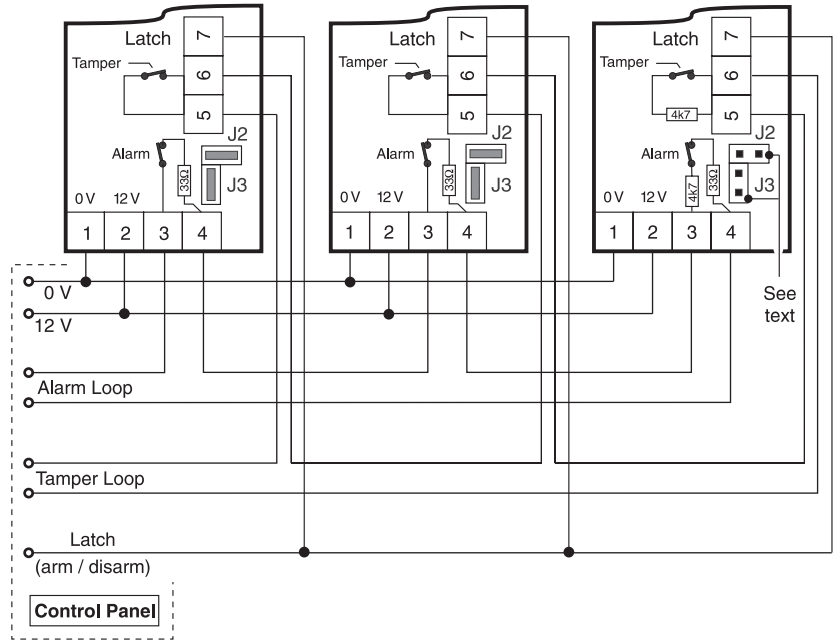

Fig. 3. Standard application.
4. Route cabling into the unit and wire the unit as shown in fig. 3, 4 or 5.
### Standard application (fig. 3).
The GS625 incorporates two on-board 4k7 End of Line (EOL) resistors in series with the alarm and tamper contacts (fig. 3. J2 and J3.) J2 enables the tamper loop EOL-resistor and J3 the alarm loop EOL-resistor.
In systems with separate alarm and tamper loops the devices must be connected like shown in fig. 3. Remove the jumpers J2 and J3 of the last device.